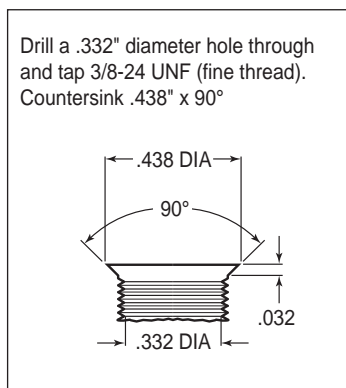
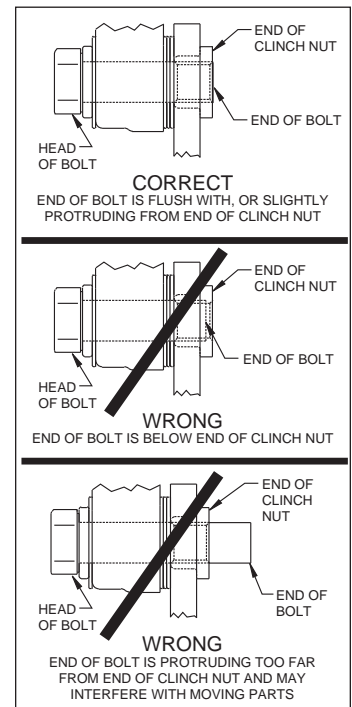

Figure 2. Drill and Tap Detail
Figure 5. Clinch Nut Engagement Diagram
NOTE: This modification should be performed by a qualified machinist and completed before assembly of the Wilwood disc brake kit begins. Using the caliper mounting bracket as a template (refer to Figure 1 as necessary), locate and verify the three original holes on the spindle that need to be modified. Drill a .332" diameter hole through all three holes, then tap 3/8-24 UNF (fine thread). Countersink the holes to .438" diameter x 90°, as shown in Figure 2.
Assembly Instructions (numbers in parenthesis refer to the parts list, and Figure 2 on the preceding pages): **CAUTION:** All mounting bolts must fully engage clinch nuts. Be sure to check that all bolts are either flush or protruding through flanged side of clinch nut after shimming, Figure 5.
For Drum Spindle: Align bracket, using the four "A" holes, to the face of the spindle and attach using bolts (2A and 5), washers (3), and lock nuts (4), as shown in Figure 2. Ensure that the flanged heads of the clinch nuts in the bracket are facing outboard, Photo 1. Torque nuts to 30 ft-lb.
For Disc Spindle: Align bracket, using the three "B" holes, to the face of the spindle and attach using bolts (2B) and washers (3), as shown in Figure 2. Finger tighten. Ensure that the flanged heads of the clinch nuts in the bracket are facing outboard, Photo 2. Remove bolts one at a time, apply red *Loctite*® 271 to threads, and torque to 40 ft-lb.
- Install the grease seal (9) by pressing into the backside of the hub (7), flush with the end of the hub, Photo 4.
- Orient the rotor (11) and the rotor adapter (10) as shown in Figure 2 and Photo 5. Attach the rotor to the adapter using bolts (12). Using an alternating sequence, apply red *Loctite*® 271 to the threads, and torque to 25 ft-lb.
- Mount the adapter/rotor assembly (10/11) to the hub (7) using bolts (13), as shown in Figure 2 and Photo 6. Using an alternating sequence, apply red *Loctite*® 271 to the threads, and torque to 55 ft-lb.
- Pack the small outer bearing cone (14) with high temperature disc brake bearing grease and install into hub (7). Slide the hub/rotor assembly onto the spindle. Secure using spindle washer (15) and OEM spindle nut, Photo 7. Adjust bearings per OEM specifications. Install saved OEM nut lock (if any) and a new cotter pin (not included).
- Screw dust cap (17) into hub (7), Photo 8. Friction created by the o-ring (16) on the dust cap keeps it from unscrewing. **NOTE:** The O.D. of the existing OEM spindle washer may be larger than the I.D. of the dust cap not allowing it to seat against the hub face. Therefore, use the spindle washer (15) supplied with the kit instead of the OEM washer.
- NOTE:** Please reference the caution statement at the beginning of the assembly instructions. Mount the caliper (18) onto the caliper mounting bracket (1) using bolts (20) and washers (19), as shown in Figure 2. Initially place two .035" thick shims (21) on each bolt between the caliper and the bracket, Photo 9. Temporarily tighten the mounting bolts and view the rotor (11) through the top opening of the caliper. The rotor should be centered in the caliper, Photo 10. If not, adjust by adding or subtracting shims between the bracket and the caliper. Always use the same amount of shims on each of the two mounting bolts. **NOTE:** The end of each bolt must be flush with or slightly protruding from the head of the clinch nut, as shown in Figure 5. If necessary place spare shims between washer (19) and caliper